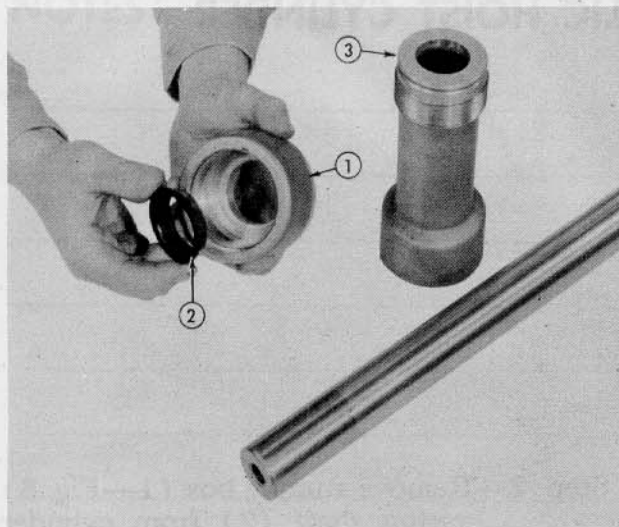

Fig. 10
Step 4—Remove packing nut (1—Fig. 10), from stuffing box.
Step 5—Remove wiper from packing nut and install new wiper (2).
Step 6—Remove packing nut wiper gland (3).